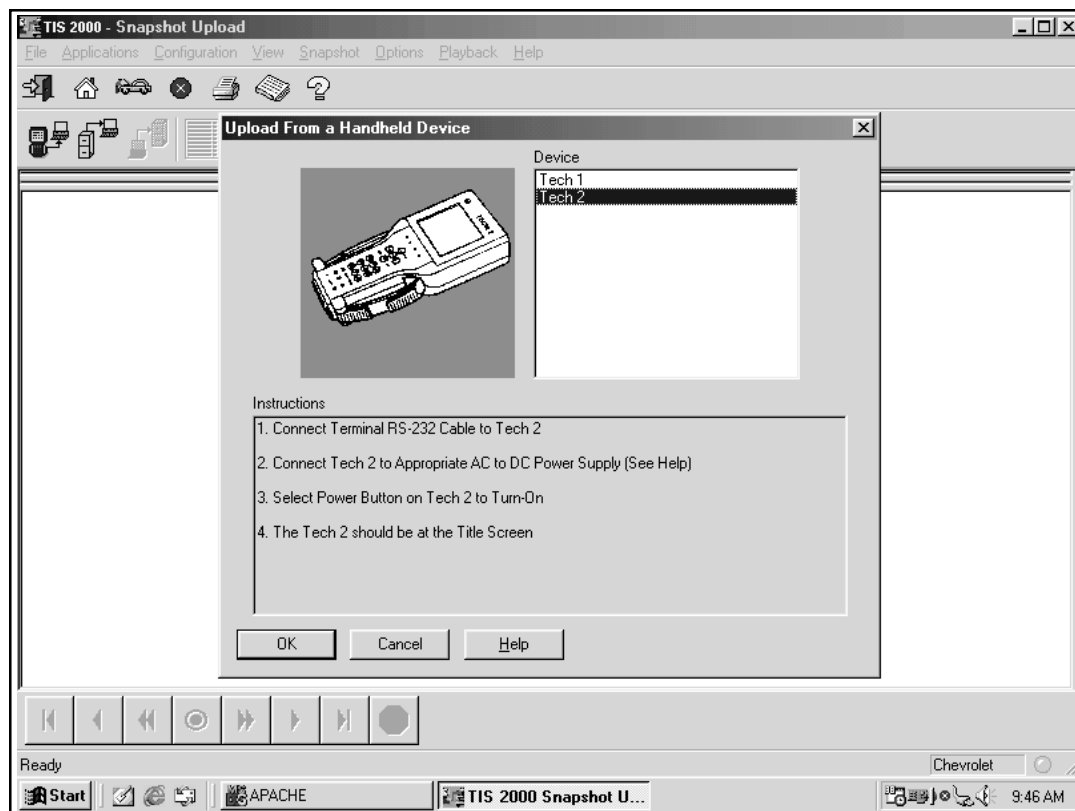

Figure I-64, Confirm Connection
4. Select the Tech 2 scan tool and verify the Tech 2-to-terminal connection, then select OK (Figure I-64).